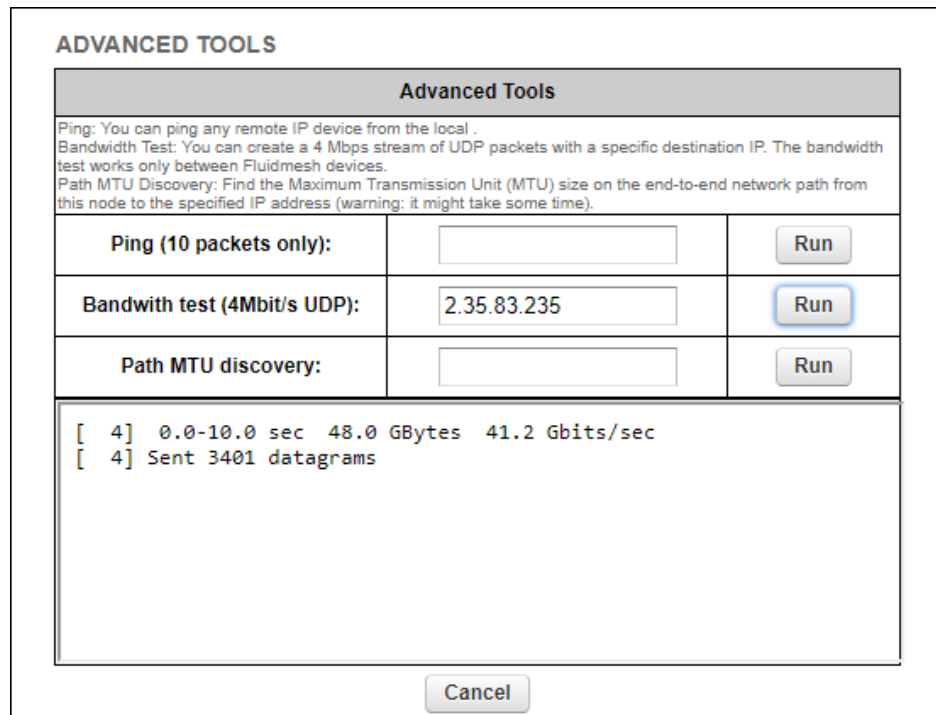

Figure 30. Advanced Tools window (Bandwidth test tool)
- Enter the IP address of the other unit in the **Bandwidth test (4Mbit/s UDP)**: field (Figure 30 (page 100)).